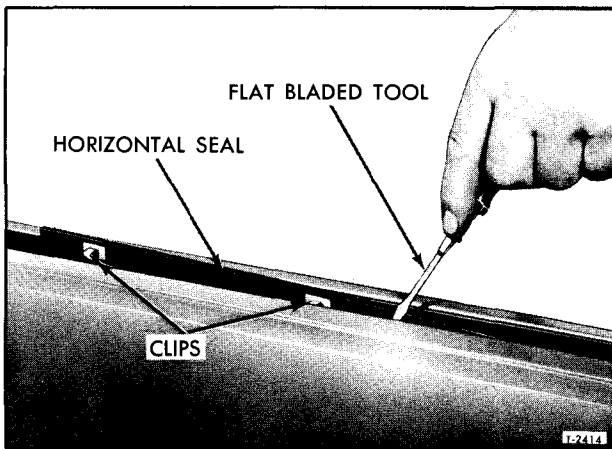

Figure 29—Removing Glass Horizontal Seals
4. If desired, the horizontal seal strips can be replaced using a pointed instrument to pry strips from door as shown in figure 29.
NOTE: Refer to figure 29.